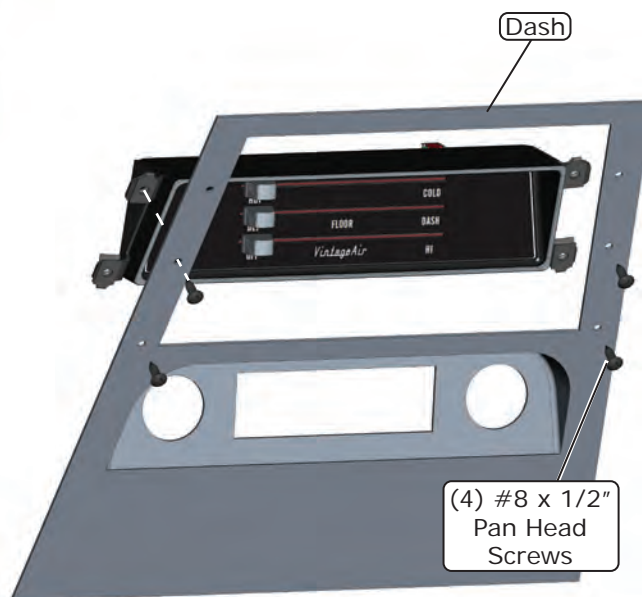

Figure 2
2. From behind the dash, place the control panel against the dash opening (See Figure 2, below).
3. Secure the control panel to the dash using (4) #8 x 1/2" pan head screws (See Figure 2, below).